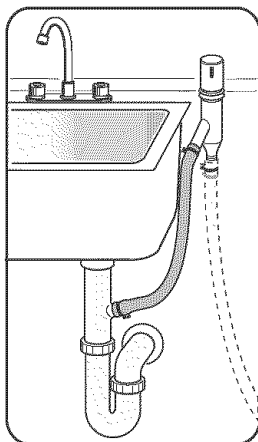

Figure 26
- 3 To the undersink dishwasher drain connection through an air gap, as shown in **Figure 26**.